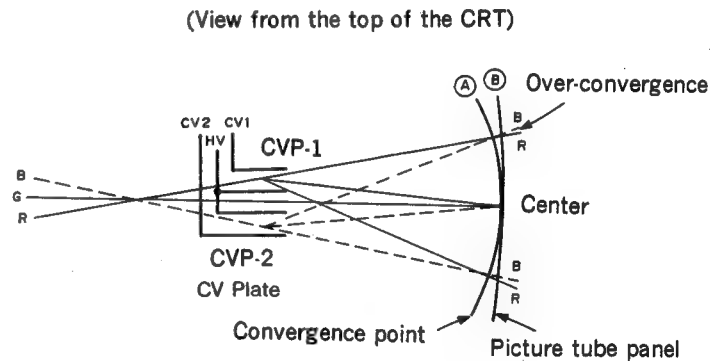

Fig. 16. Convergence Principles
As shown in Fig. 16, when DC voltage is applied to the CV electrode for convergence at the center of the screen, the optimum position on the sphere is indicated by ④. However, as the front panel indicated by ③ is nearly flat, over-convergence occurs at both sides of the screen. Thus, dynamic misconvergence occurs as shown below.